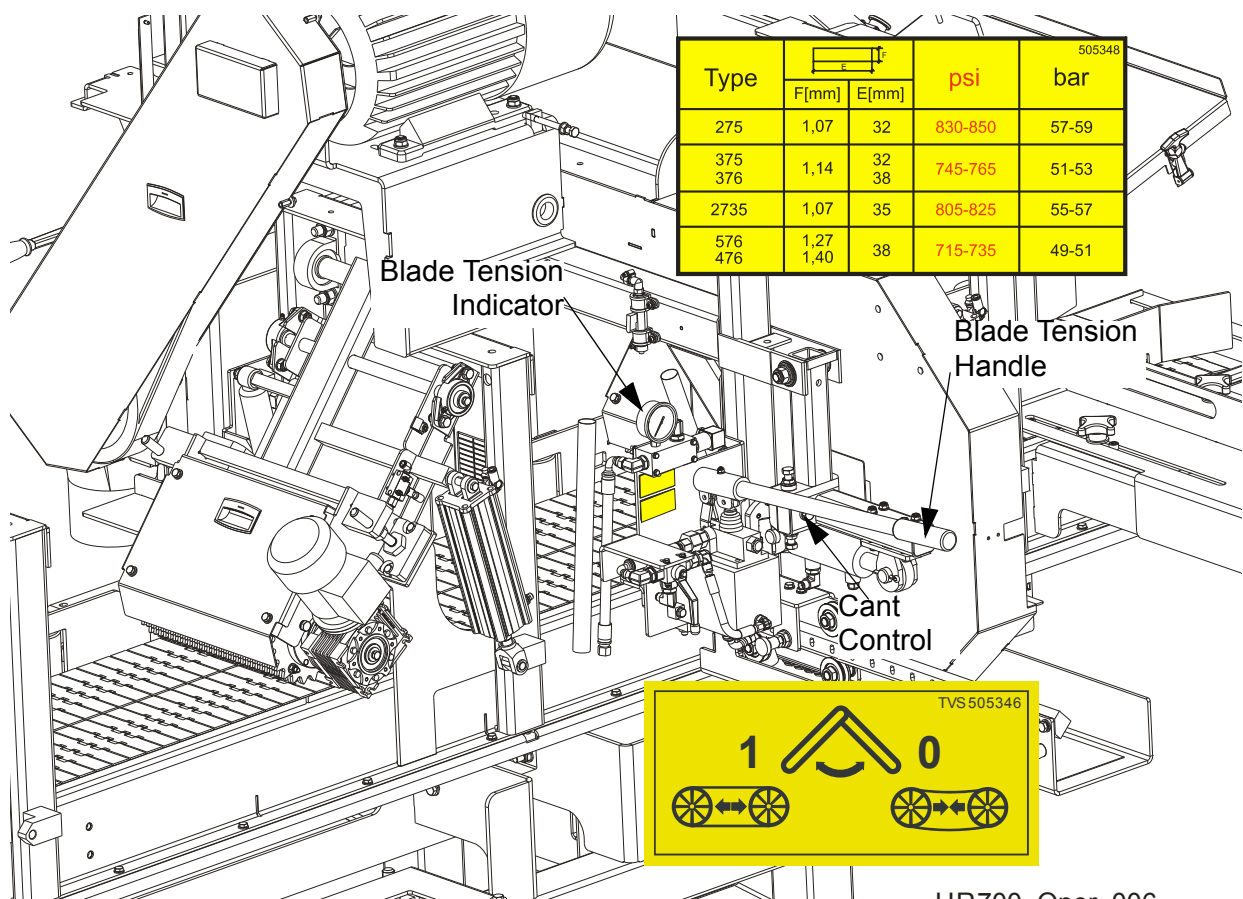

FIG. 2-10
See Figure 2-10. Place the provided handle in the blade tensioner socket and secure with a screw. Set the tensioner valve to the "1" position. Move the tensioner handle up and down to tension the blade. Depending on the installed blade type, tension the blade to the value shown on the decal located below the blade tension valve. The values "F" and "E" are: blade thickness and blade width. Check the blade tension occasionally when adjusting the cant control or while cutting and adjust if necessary. As the blade and belts heat up and stretch, the blade tension will change. Also, ambient temperature changes can cause tension to change. To release the blade tension, set the tensioner valve to the "0" position.
5. Use the cant adjustment bolt, shown in **Figure 2-10**, to adjust where the blade travels on the blade wheels.